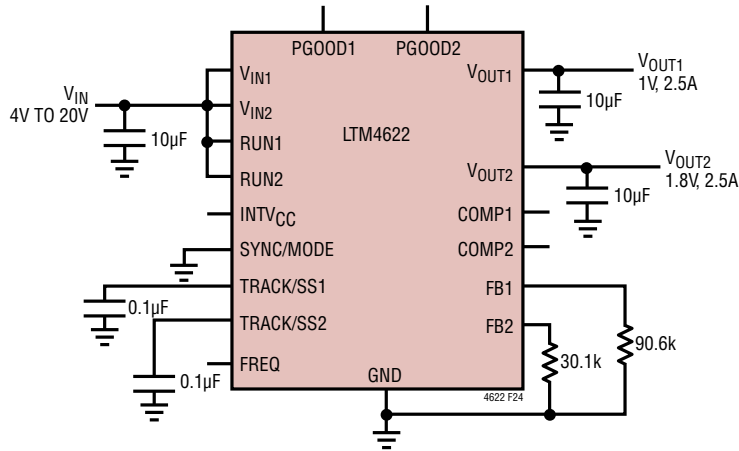

Figure 24.  $4V_{IN}$  to  $20V_{IN}$ , 1V and 1.8V Output at 2.5A Design
**Table 7. Output Voltage Response for Each Regulator Channel vs Component Matrix (Refer to Figure 24)**